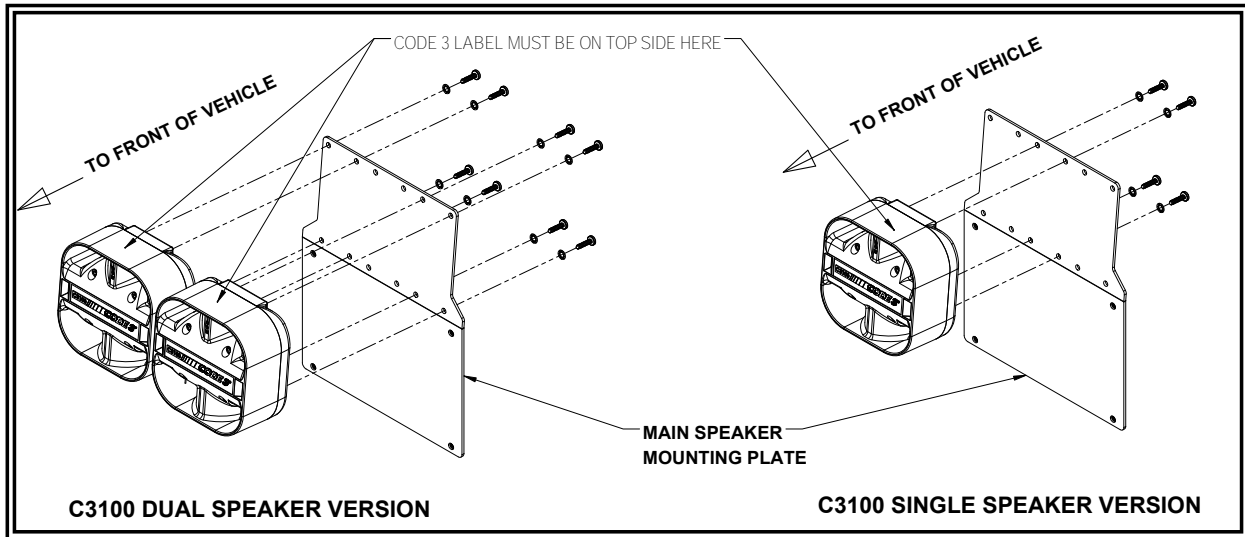

Figure 1
Step 2. Install the single or dual speakers to the Speaker Mounting Plate by threading four (4) #12 X 1" Long Phillips pan head sheet metal screws with four (4) ¼" internal tooth star lock washers for each speaker body through the holes in the main bracket and into the holes in the back side of the plastic speaker body (See Figure 1). Tighten the screws until the screws and washers fully bottom out against the bracket. Do not over tighten.
Note: Make sure the speakers are mounted in the correct orientation with the Code 3 Speaker Label at the top of the assembly (See Figure 1 for correct speaker orientation). **Caution:** Severe damage could occur to the speaker if it is not mounted in the proper orientation.